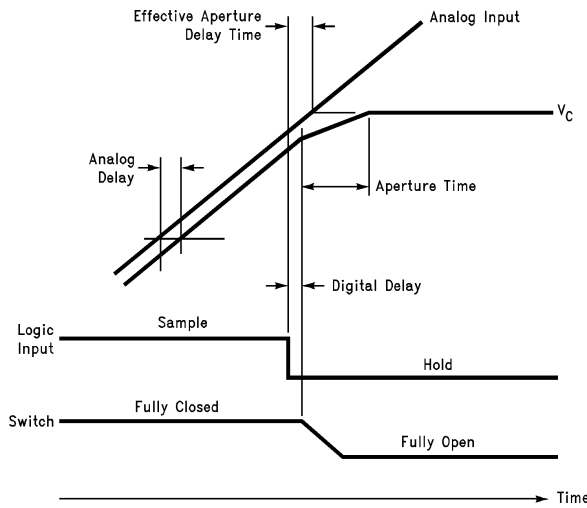

FIGURE 3. Aperture Time and Effective Aperture Delay Time
**Aperture Time**, also known as aperture delay, is a specification that is defined differently by different manufacturers. The strict definition is that it is the time during which the signal is being disconnected from the hold capacitor after a hold command has been given (*Figure 3*). The broader definition is that it is the time between the application of the hold command and when the signal has been completely disconnected from the hold capacitor. The second definition includes the digital delay which occurs between when the hold command is applied and when the switch connecting the input signal to the hold capacitor *begins* to open.
**Effective Aperture Delay Time** is the time delay between the generation of the hold command and the appearance at the input of the final "held" voltage that exists on the hold capacitor (*Figure 3*). If precise timing is required, the hold command must be given an "effective aperture delay time" before the instant at which the input value is desired.